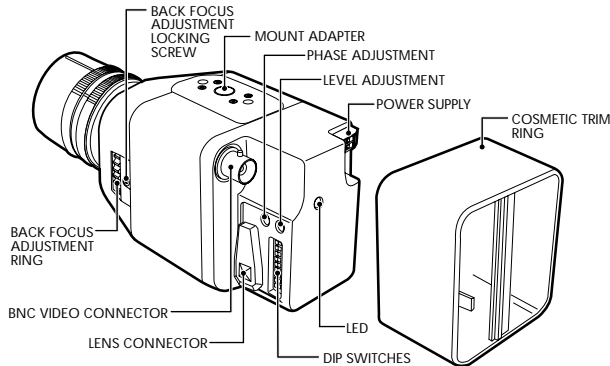

Figure 1. Camera Layout
2. Remove the cosmetic trim ring from the back of the camera (refer to Figure 1). Set the lens mode selector switch on the side of the camera to AI (auto iris video drive lens) or DD (auto iris DC drive lens). Refer to the *Switch Settings* section. Switch setting is determined by the type of lens used.
1. Remove the rear cover from the camera (refer to Figure 1). Thread cabling through the rear cover.
1. Remove the cosmetic trim ring from the camera (refer to Figure 1). Thread cabling through the rear cover.
When a direct drive lens is used, the lens mode selector switch must be set to DD. Switch the EI and AGC OFF. Use an appropriate screwdriver to turn the lens level potentiometer (refer to Figure 1) fully clockwise. Next, slowly adjust the potentiometer counterclockwise until the optimum picture is obtained (video output level of 1V peak-to-peak). Switch the AGC ON. To focus, fully open the iris by covering the lens with a suitable neutral density (ND\*) filter. Select the scene to be viewed. If the viewed scene is 6.5 feet (2 m) away or farther, set the lens focus to infinity (far). Use the back focus adjustment ring (refer to the *Back Focus Adjustment* section) and focus on the selected scene. Remove the ND filter and set the lens focus as required.